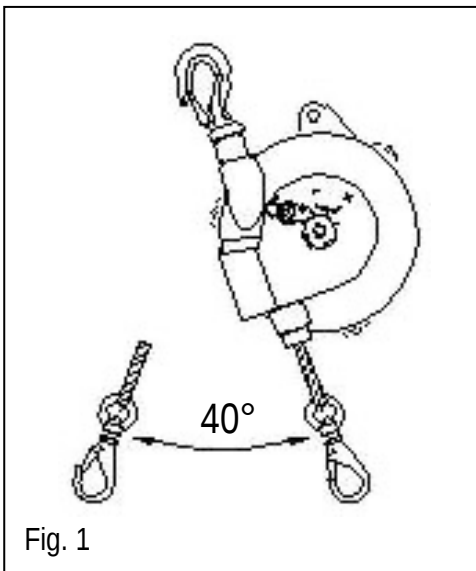

Fig. 1
- Using a large angle (Fig. 1) will shorten the operating life of the wire. The operating angle should be less than 20°.